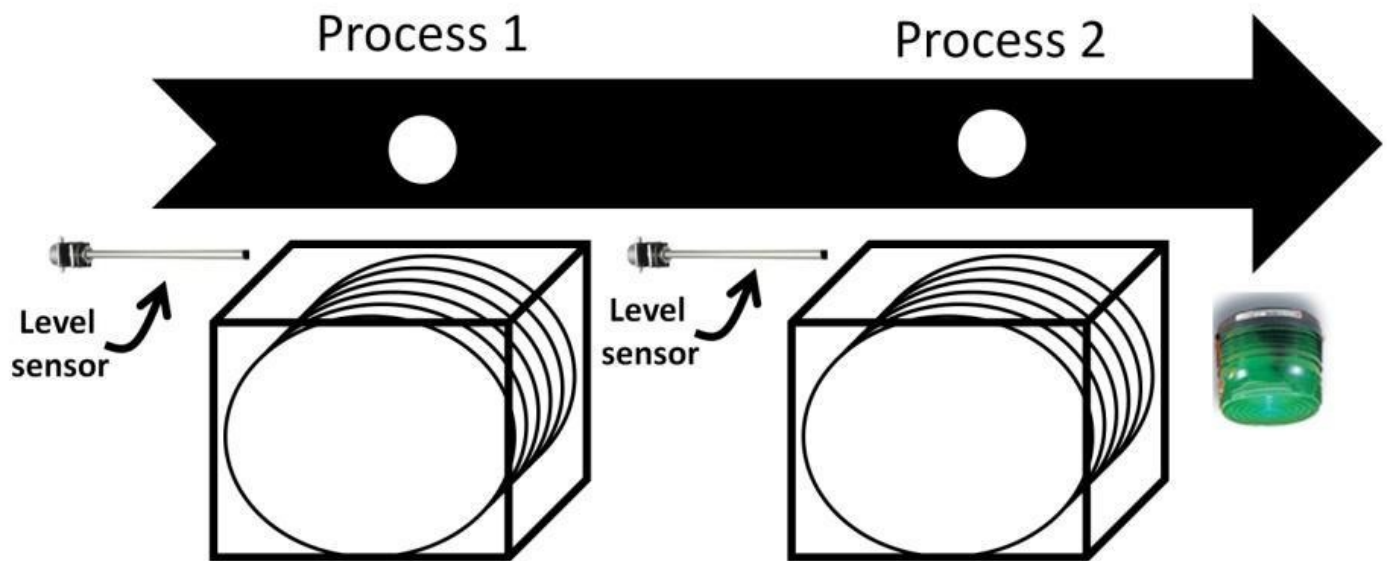

Figure 8.66: Semiconductor fab conveyor system
- 4) Design a PLC ladder logic program for a semiconductor fab conveyor system (see figure 8.66). A silicon wafer box (lot) waits for 30 minutes at process point 1. The level sensor detects whether the wafer lot has been filled up to 12 wafers. Once it's filled, the lot will be transported to the process checkpoint 2 where it stops and waits for 15 minutes for further processing. At the end of end 15 minutes, the green light turns on.